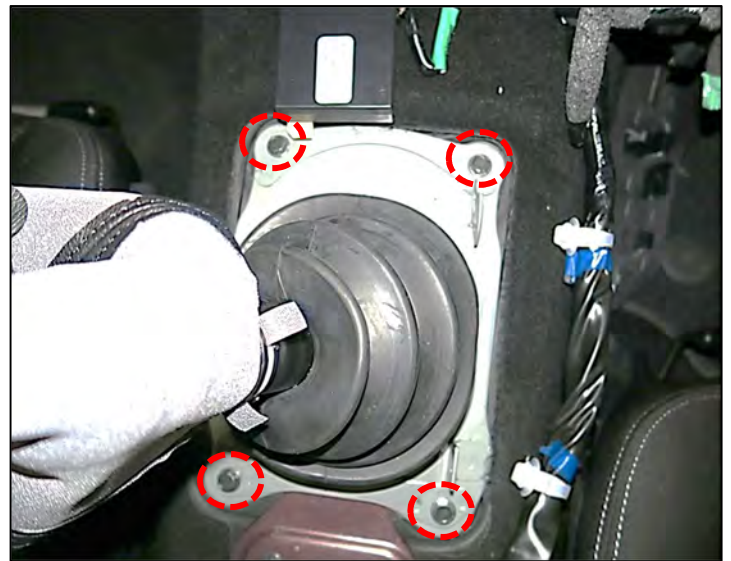

Figure 38
39. Remove the hole cover. (Figure 38)
- Remove the (4) bolts securing the hole cover to the floor.